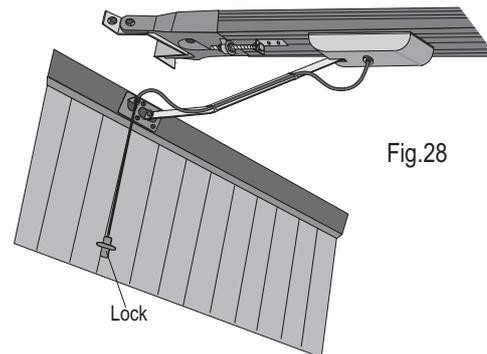

Fig.28
It is possible to unhook the door from the motor device through the releasing wire (W). If a lock is mounted on the door, in order to unhook the door with the lock it is necessary to install a special kit, available as optional (fig.28).